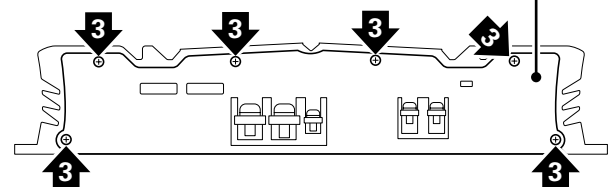

Fig. 2
● Removing the Panel (Fig. 2)
- 1) Secure the RCA-side Panel on the Heat Sink with screws. (Fig. 2)
- 4) Secure the RCA-side Panel and the RCA Holder with screws. (Fig. 2)
- 6) Secure the Panel for the Power Terminal side in place with screws. (Fig. 2)